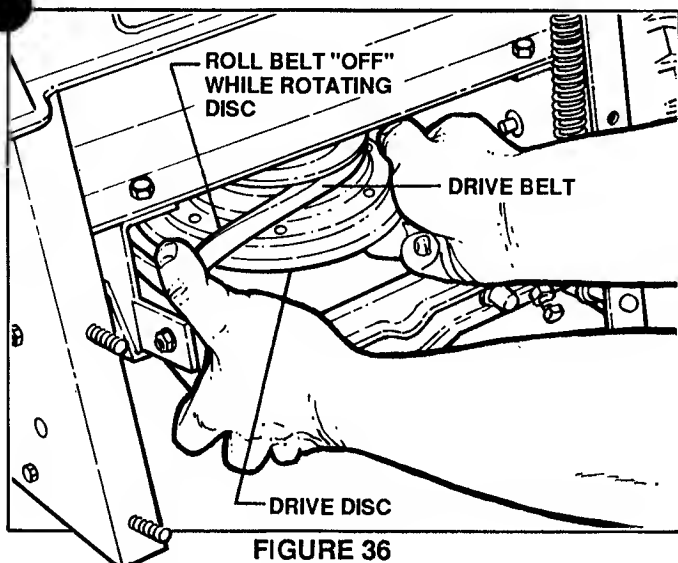

FIGURE 36
9. Working at the rear of the tractor, rotate the DRIVE DISC while holding down on the DRIVE BELT until belt is clear of disc. See Figure 36.